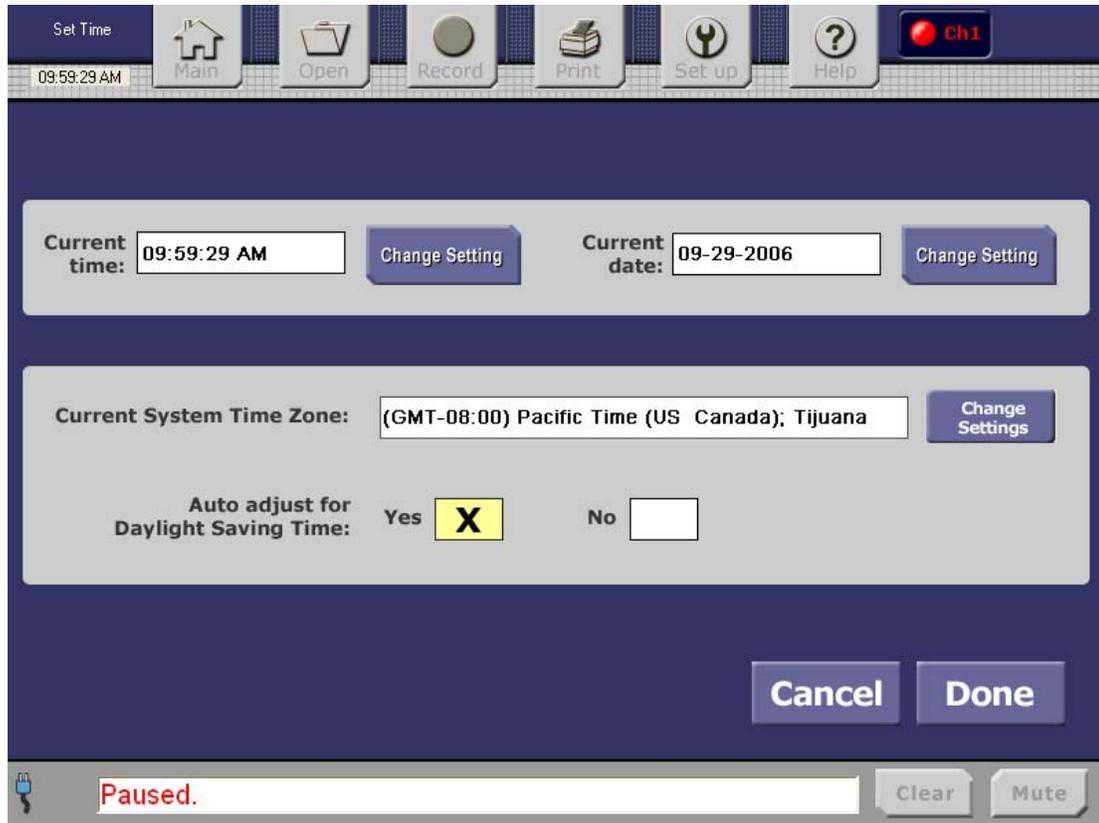

Figure 18. Set Up Current Date and Current Time Screen
6. Press **Cancel** to return to the previous **Set Up Current Date and Current Time** screen (Figure 18) without making changes;
Press **Done** to update the **Current Time** to the **New Time**, then return to the previous **Set Up Current Date and Current Time** screen (Figure 18).
5. Press **Cancel** to return to the previous **Set Up Current Date and Current Time** (Figure 18) screen without making changes;
3. Press **Cancel** to return to the previous **Set Up Current Date and Current Time** screen (Figure 18) without making changes;
Press **Cancel** to return to the **Set Up Current Date and Current Time** screen (Figure 18) without making changes;
Press **Okay** to save the selected time zone and return to the **Set Up Current Date and Current Time** screen (shown in Figure 18).